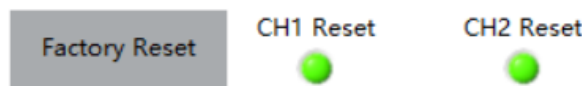

Figure 5.2.9 Restore factory settings
- Click the "Factory Reset" button to erase the original angle programming data. (If the chip is being programmed for the first time, this step can be skipped) After erasing is completed, the "Factory Reset" indicator light will turn green (Figure 5.2.9)